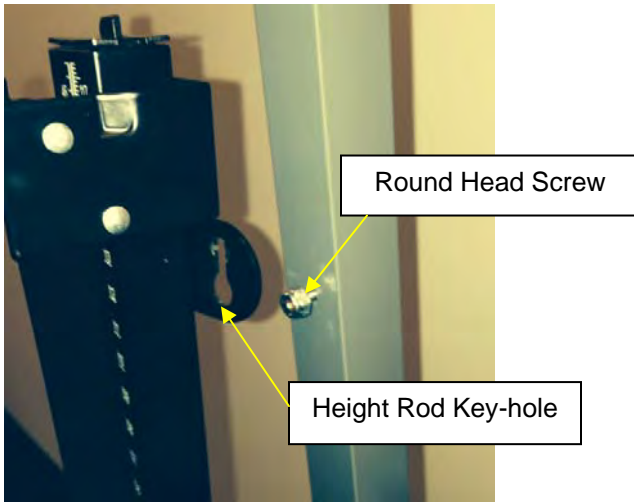

Figure 8
8. Once the assembly is correctly positioned, using a 1/2" wrench, tighten all four (4) bolts on the mounting brackets to secure the assembly.
10. Position the height rod's key-hole mounts over the round headed screws on the mounting rod. (See Figure 8)